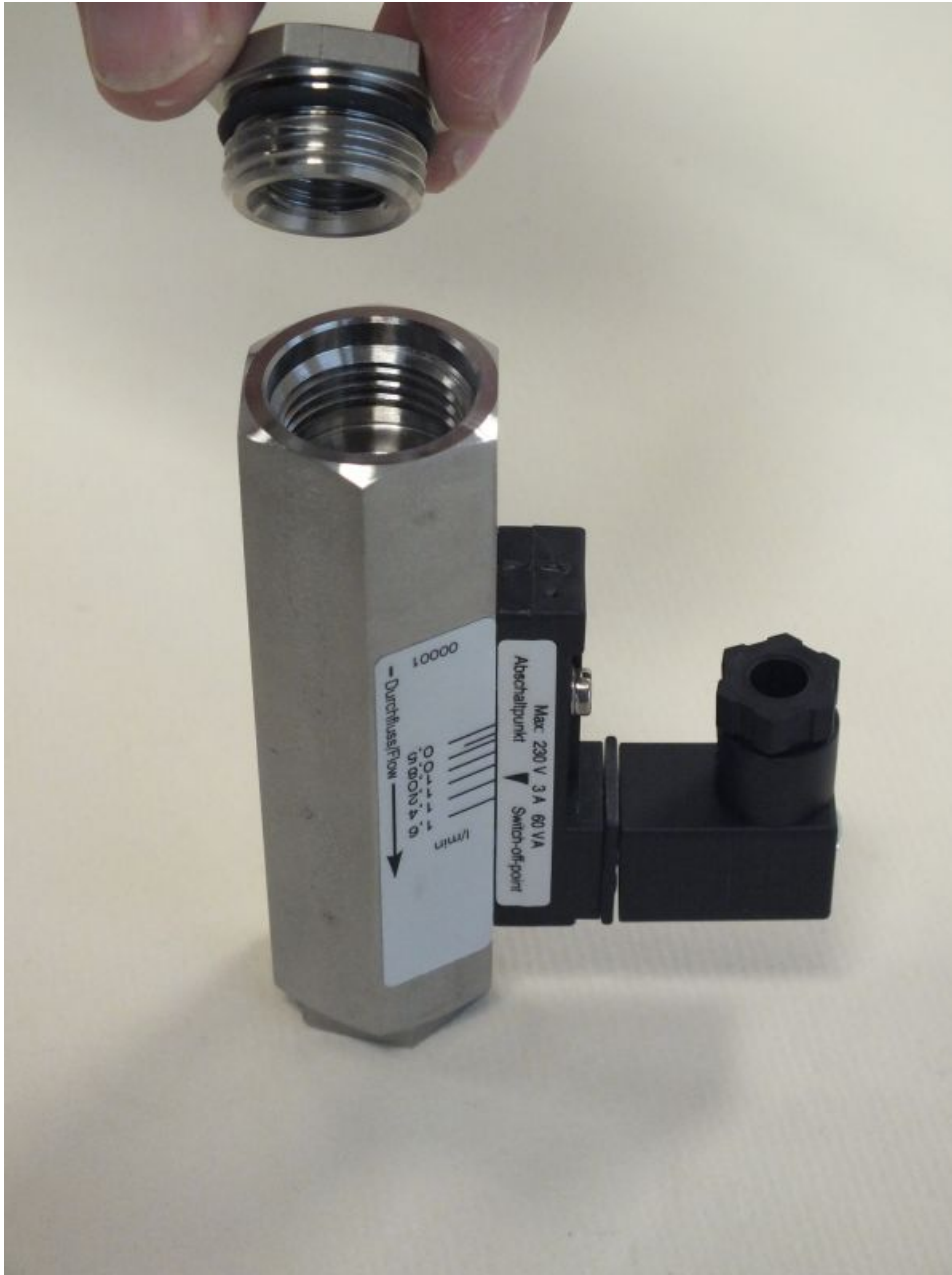

Fig. 43: Remove the process connection (inlet)
9. ➤ Unscrew the process connection (inlet) from the device body (Fig. 43). If necessary, remove the O-ring from the process connection.